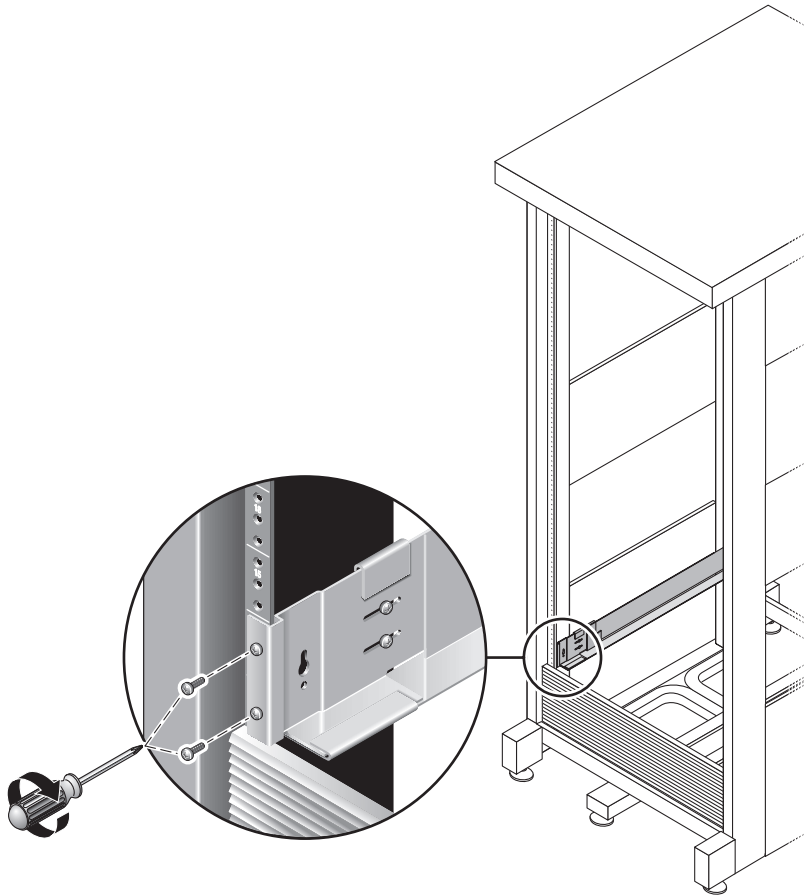

FIGURE 2-11 Securing the Right Rail to the Back of the Cabinet
7. Using the #3 Phillips screwdriver, insert and tighten the M6 screws on each side at the back of the rail (FIGURE 2-11).